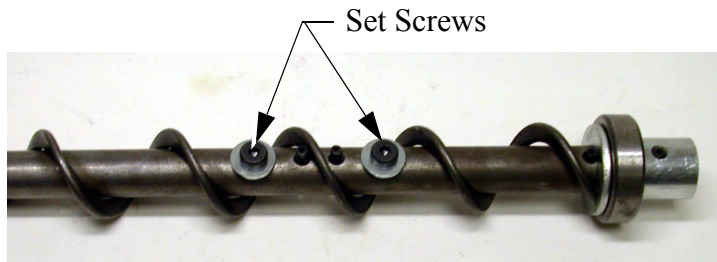

Figure 92. Auger and anchor Bearing Connection
1. Insert the Anchor Assembly into the auger until it touches the washer at the back of the anchor. Tighten the setscrews in the center of the anchor until they touch the auger, then tighten a maximum of 1/2 turn. See **Figure 92**.